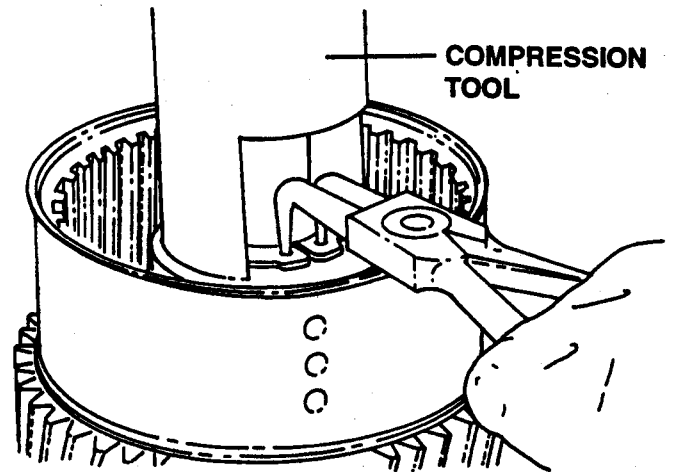

Figure 41.
7. Remove pressure (end) plate (89). Remove the disc spring assembly (74). The disc spring is assembled within a liner to protect the hub support spline.
8. Position clutch assembly in press to compress piston spring then remove circlip (73). See Figure 41.